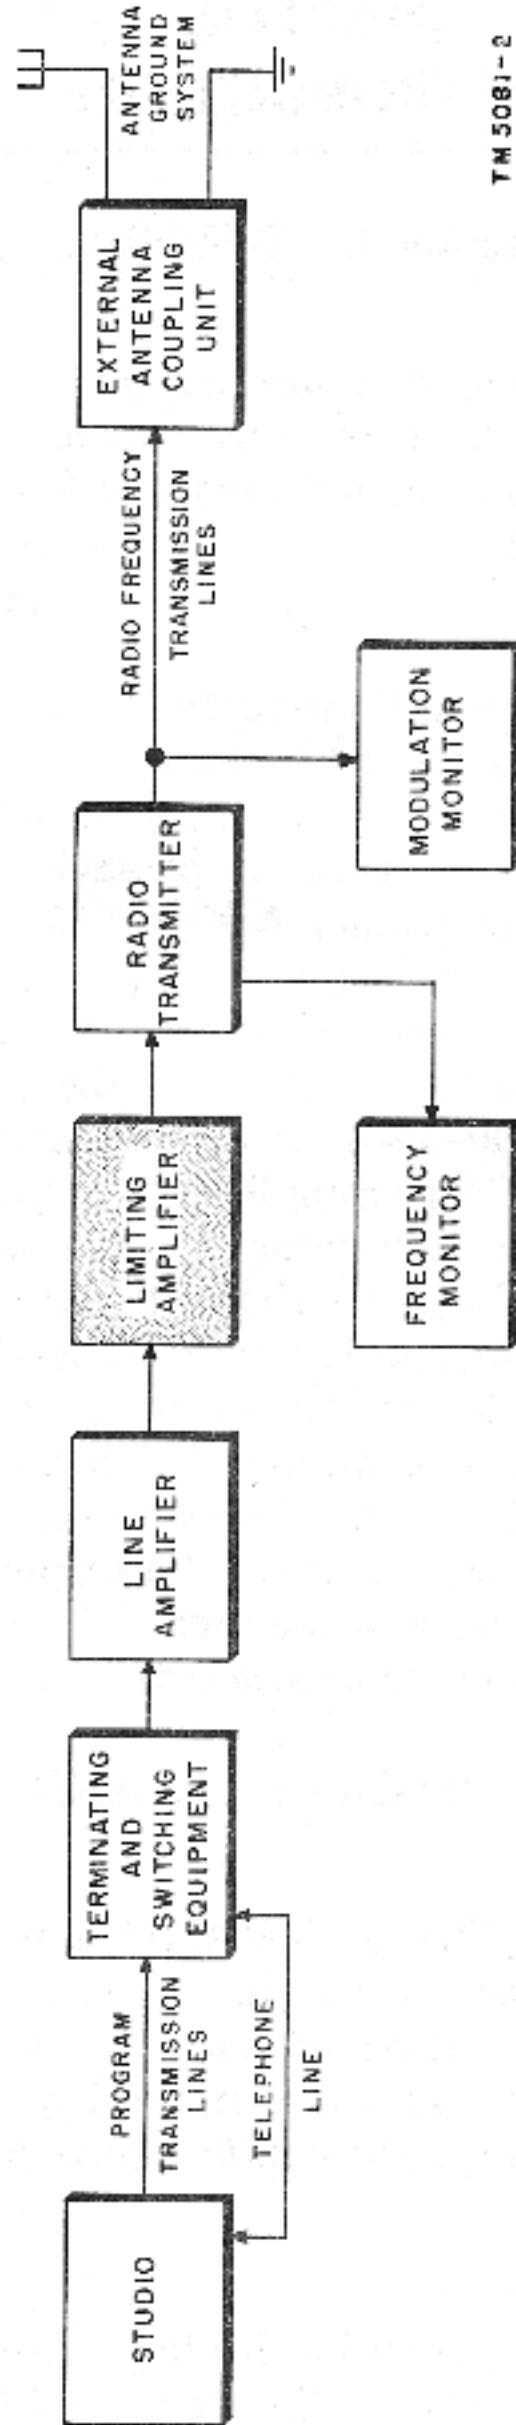

Figure 2. Broadcast installation, simplified block diagram.
a. Figure 2 is a simplified block diagram of a typical broadcasting installation that uses a limiting amplifier such as Audio
- (1) Determine what type of equipment precedes the amplifier. For example, refer to figure 2. Find out what type of line amplifier precedes the limiting amplifier in the system.
- (2) Check the technical manual assigned to the piece of equipment to see whether balanced or unbalanced line connections are specified.
- (3) Determine what type of equipment follows the amplifier. For example, if a transmitter follows the limiting amplifier, as shown in figure 2, find out what type of transmitter it is.
- (4) Check the technical manual as in step 2 above.